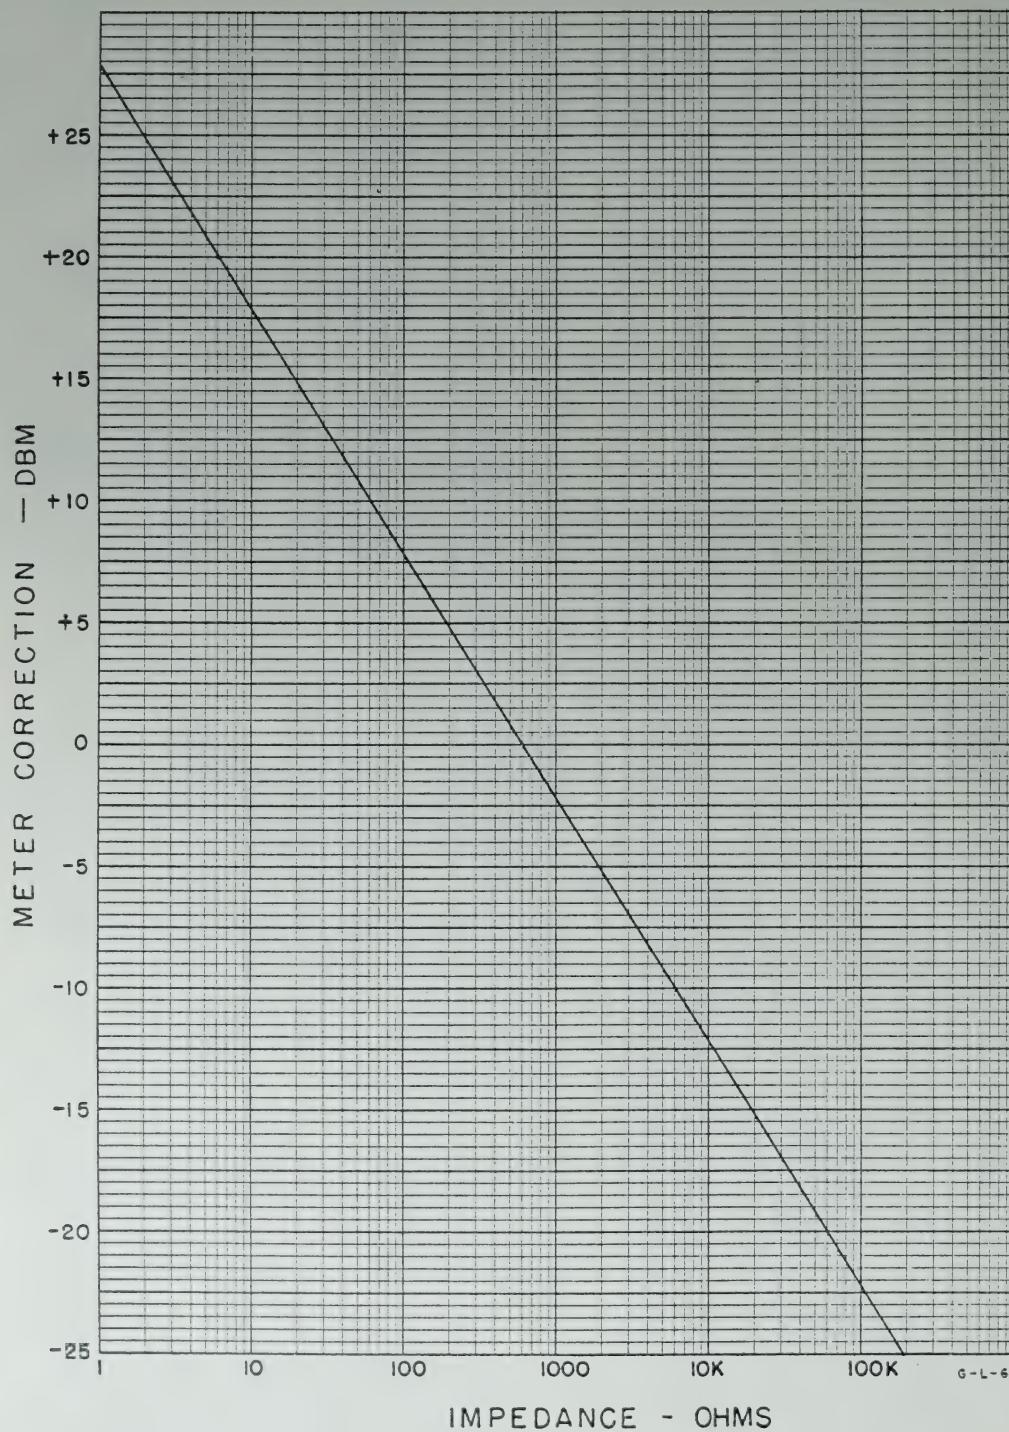

Figure 2-6. Impedance Correction Graph
d. If the impedance of the signal source is other than 600 ohms, the dbm level is obtained by applying a correction factor to the algebraic sum of meter indication and setting of METER RANGE switch. To find correction factor, refer to Impedance Correction Graph shown in figure 2-6.
In figure 2-6, find the intersection of the impedance of the signal source and the diagonal line. Read the correction factor on the vertical axis. Examples:
&\underline{+8} \text{ (correction factor from figure 2-6)} \\
&\underline{-20} \text{ (correction factor from figure 2-6)} \\